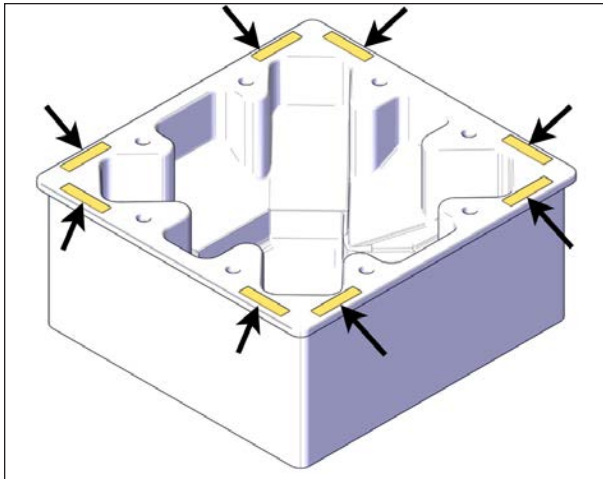

FIGURE 31: FOAM SPACER INSTALLATION
1. Install foam spacers on the top of the spa near each corner. Use the masking tape provided in the seal bag to keep the spacers in place. Install at least 3 foam spacers on each longest side. Do not stack foam spacers see Figure 31.